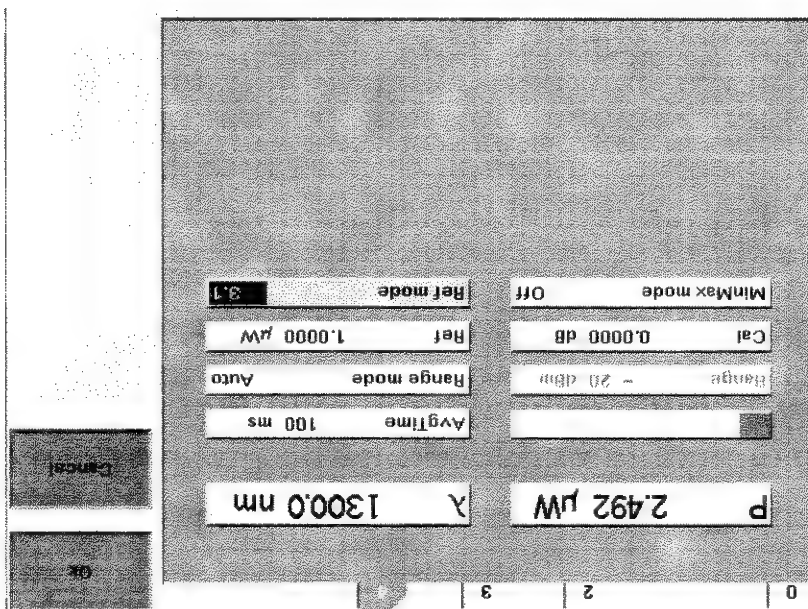

Figure 40 Referencing Another Channel
- 3 Move to the channel number you want to reference, using the cursor key, and press Enter. For example, in Figure 40, you could choose 3.1 (for channel 3.1).